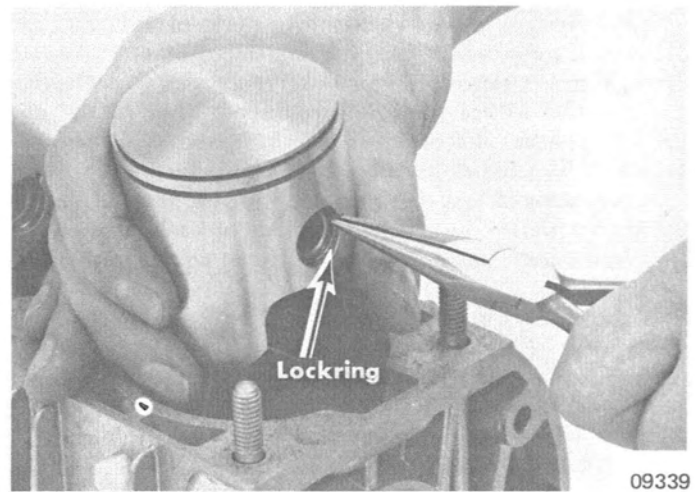

Figure 7. Installing Lockrings
2. Position each piston on its connecting rod with arrow on dome of piston (Figure 7 in "Engine Disassembly", preceding) toward exhaust port side of engine.
4. Install new piston pin lockrings (2 on each piston). (Figure 7)